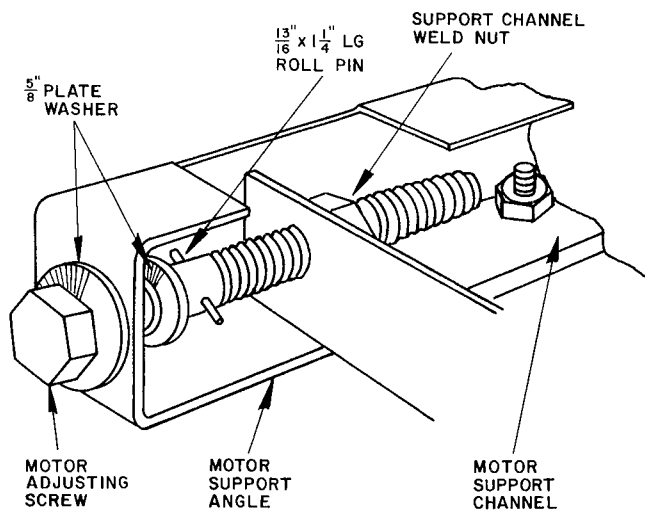

**Fig. 6 — Assembled Fan Motor
4. Assemble and install motor adjusting screws as shown in Fig. 6. Drive roll pins into screws to prevent the screws from backing out during motor position adjustment.